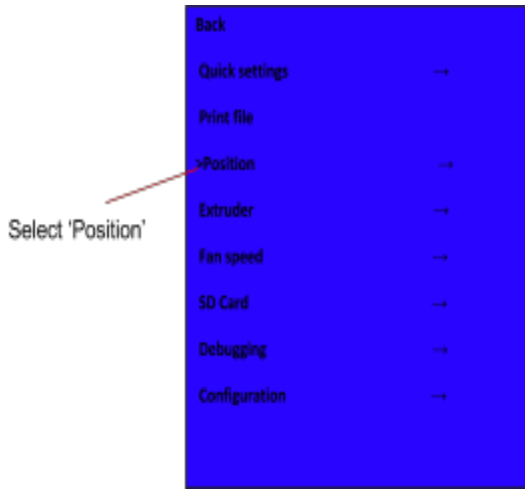

Fig 1
2. Press jog wheel once and scroll down to "Position" (see fig 1 below), scroll down to 'Home Z' (see fig 2 below) and select by pressing the jog wheel, the bed will raise towards the nozzle.